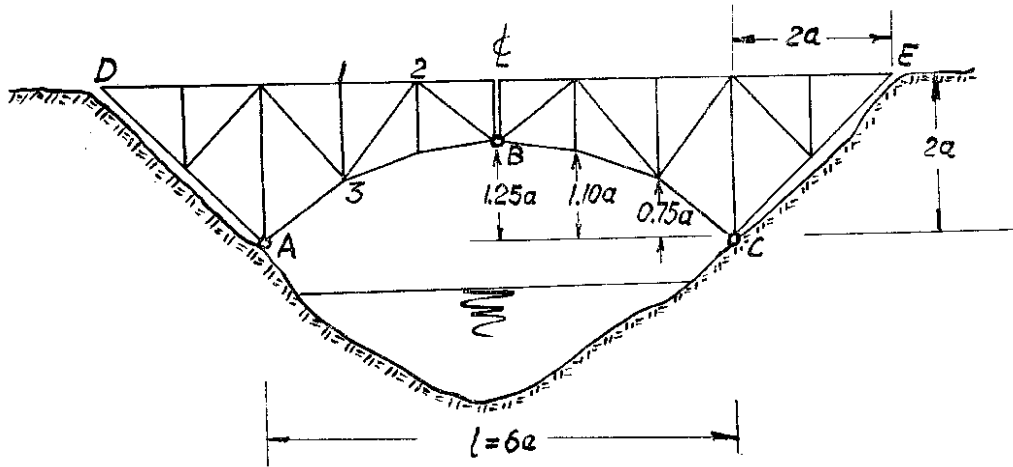

Figure 6
6. Draw the influence lines for the vertical and horizontal reaction components at  $A$ , and axial forces in members 1-2, 1-3 and 2-3 of the braced three-pinned arch shown in Figure 6. All the members are pin-connected and the external load moves along a deck connected to the panel points between  $D$  and  $E$ .